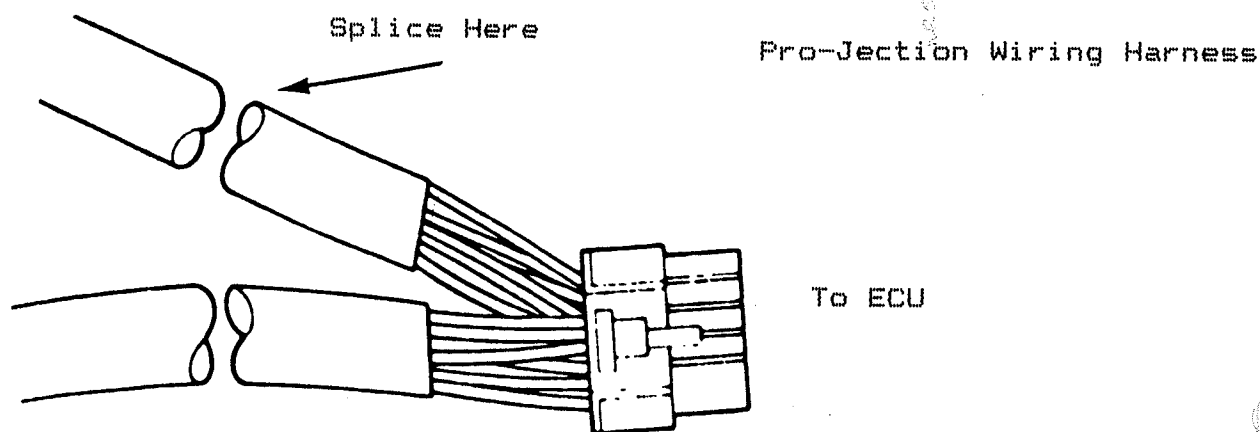

Figure 1
7. Strip back the protective covering on the Pro-Jection wiring harness about six inches from the ECU connector. Both sensor and power cable bundles will need to be spliced into. See Fig. 1.